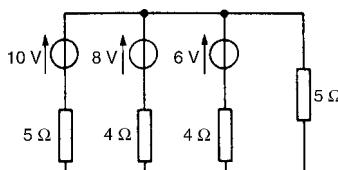

Figure 13.79
- 5 For the network shown in Fig. 13.79, convert each branch containing a voltage source to its Norton equivalent and hence determine the current flowing in the 5Ω resistance. [1.22 A]